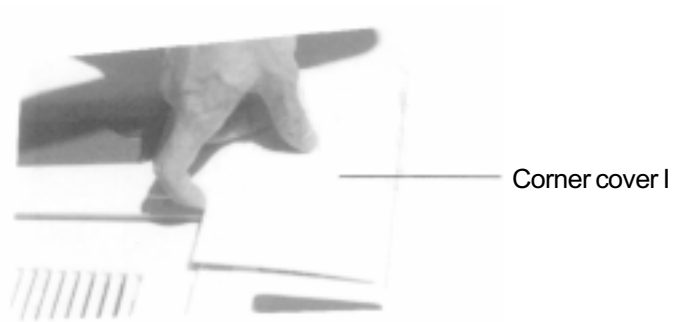

Figure 5
- Pull out four corner covers, and remove them as shown in figure 5 and 6